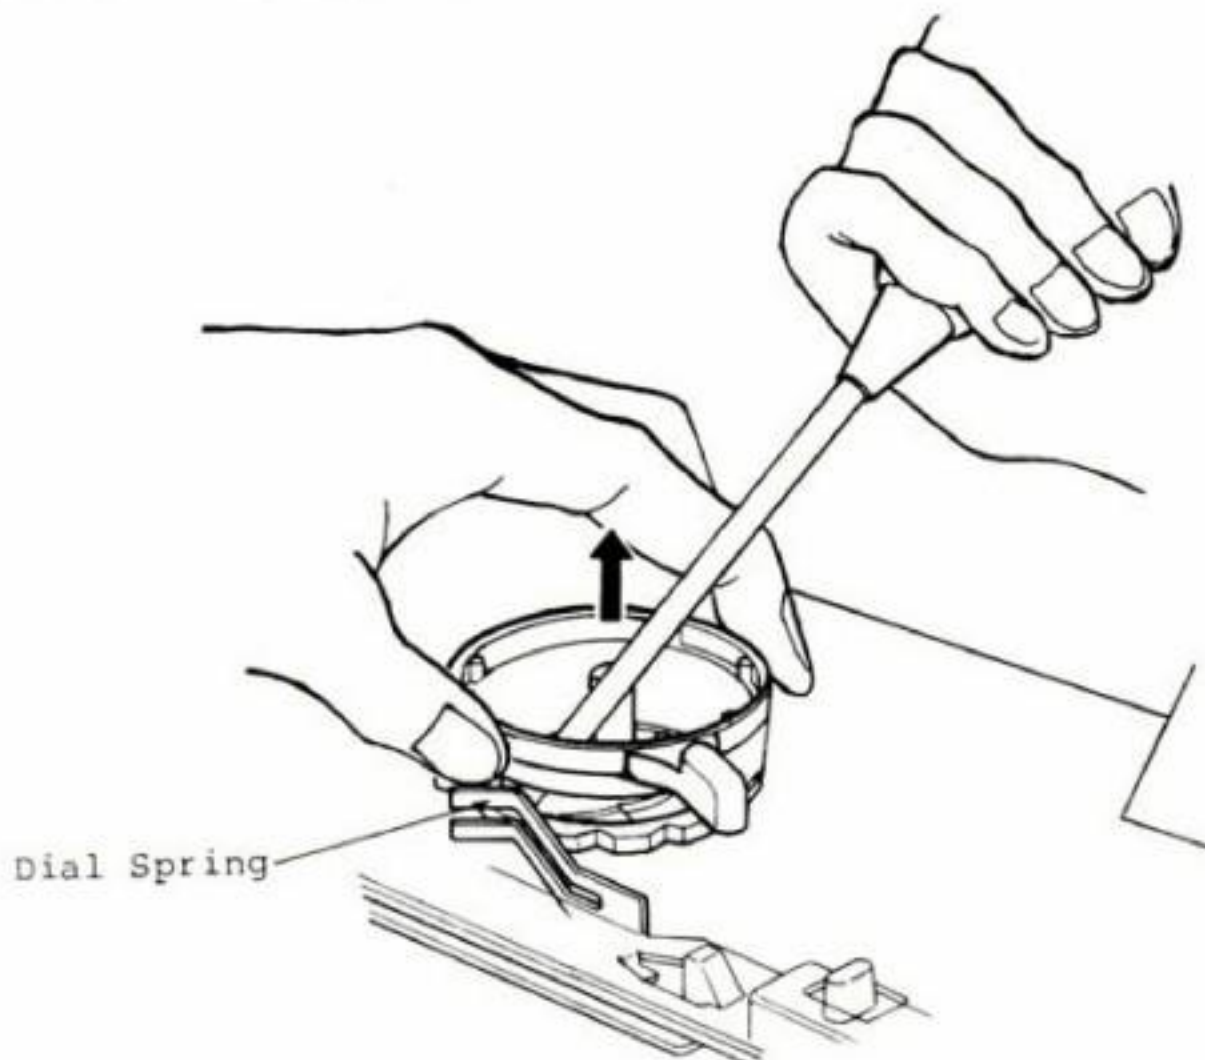

FIG.9
5. Set the Cam Lever to "FAIR ISLE". While pressing the Dial Spring toward you with the shaft of Screwdriver, pull out the Cam Lever together with Carriage Cover as shown in Figure 9.